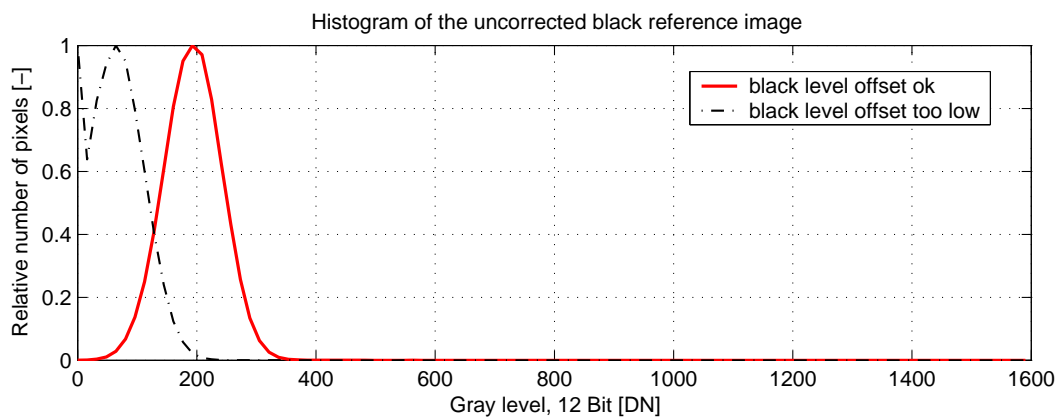

Figure 4.26: Histogram of a proper black reference image for offset correction
- It may be necessary to adjust the black level offset of the camera. In the histogram of the black reference image, ideally there are no gray levels at value 0 DN after adjustment of the black level offset. All pixels that are saturated black (0 DN) will not be properly corrected (see Fig. 4.26). The peak in the histogram should be well below the hot pixel threshold of 1008 DN @ 12 bit.